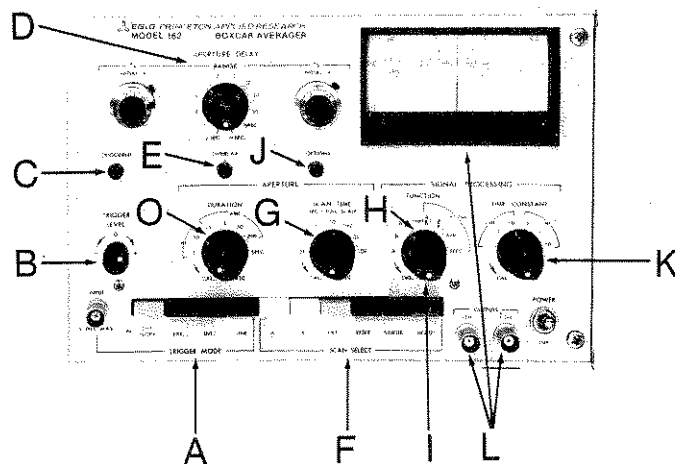

Figure IV-1. MAINFRAME FRONT PANEL
4.3A MAINFRAME FRONT PANEL (Figure IV-1)